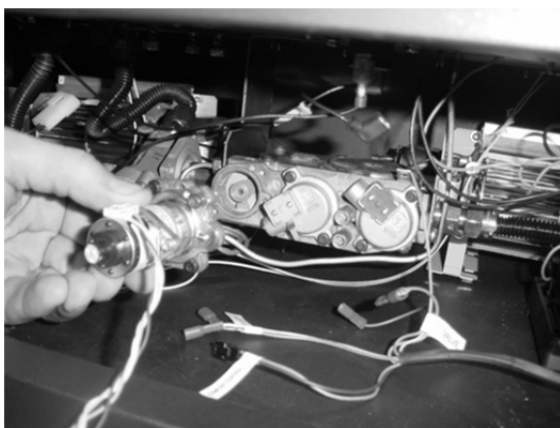

Figure 1
- (b) Remove and discard the Natural Gas (NG) orifice. Place the LP orifice in the pilot assembly then replace the pilot hood, tightening the pilot hood until it is snug (do not over-tighten).
- 6 Remove the control panel to access the gas control valve. The stepper motor (adjustable regulator) has an installation sheet included with it – make sure to follow all of the directions. Place the stepper motor on the gas control valve (see Figure 1) – **MAKE SURE IT IS CORRECTLY ORIENTED**. Secure using the screws included with the motor (see Figure 2) – tighten to 25 Lb-inches. Leak test this area after installation to verify proper installation.